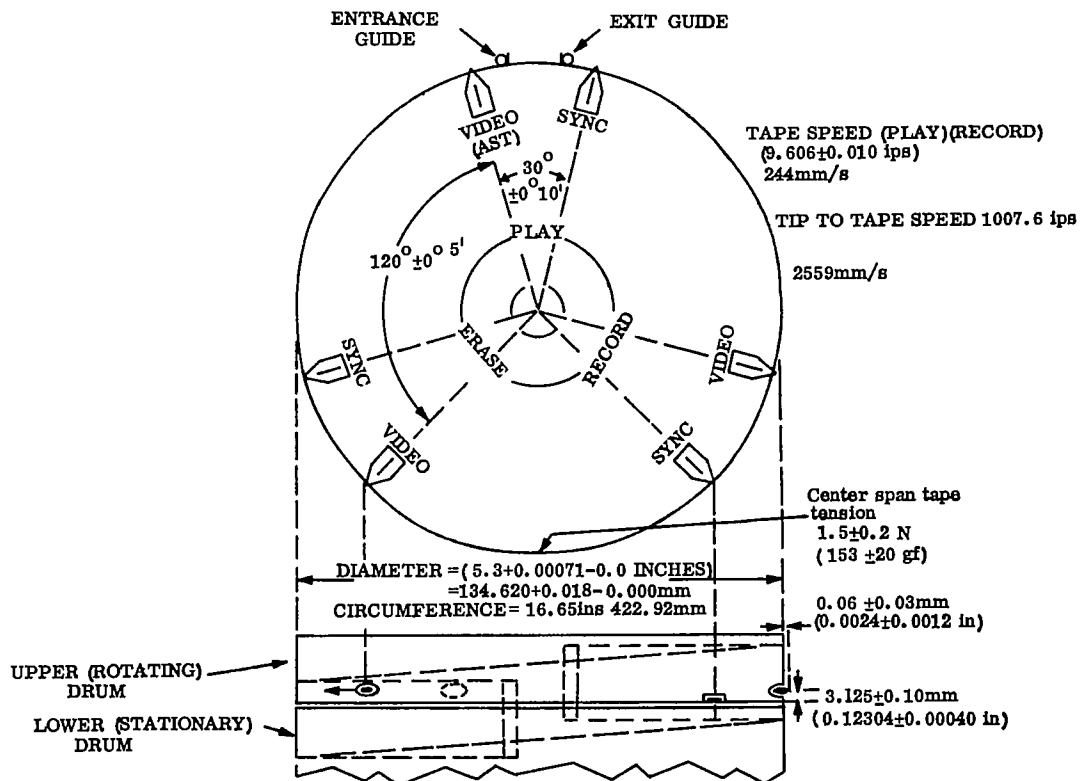

FIGURE 6. TIP LOCATIONS AND DRUM DIMENSIONS
9. Figure 6 shows the tip locations. When an operational pole tip is not required (such as the optional sync heads), a dummy tip is required in that location.